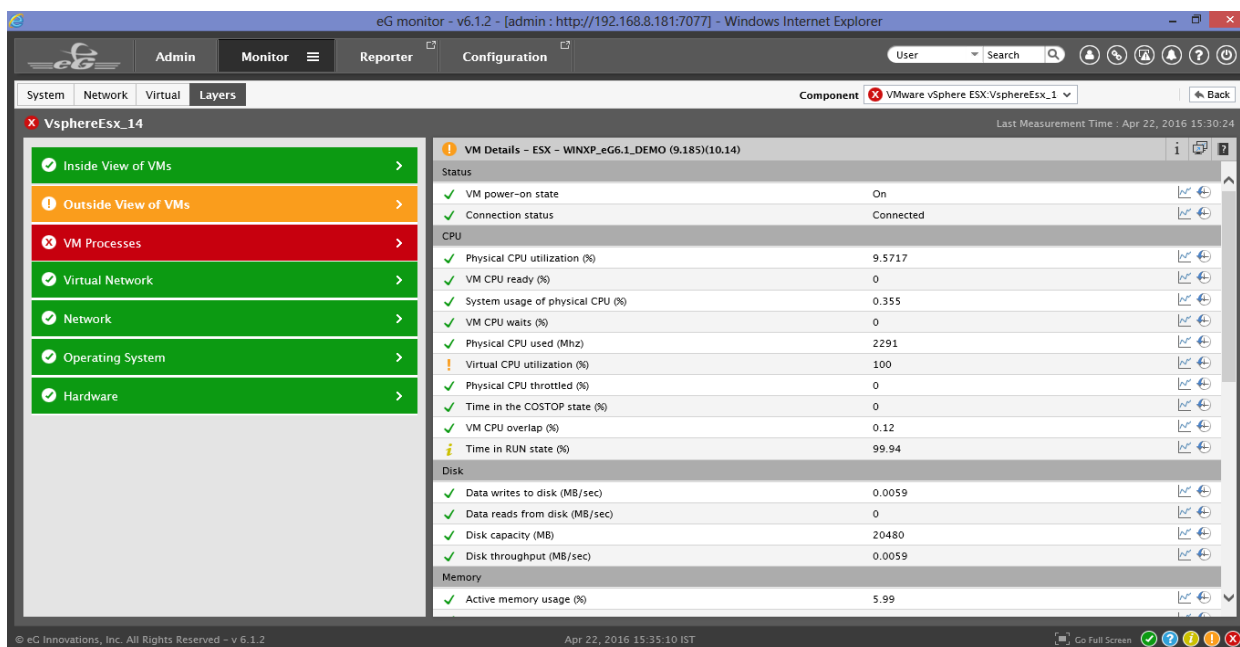

Figure 4.9: Launching the eG monitoring console from the SCOM console
5. If you select a component from the **All Components** view and click the **Diagnose using eG** option in the **Actions** pane, Figure 4.9 will appear.
6. Figure 4.9 reveals the layer model of the component chosen from the **All Components** view, and also displays the problem layer, problem test and problem measures related to that component. This way, you can quickly isolate why the component is in an abnormal state currently.